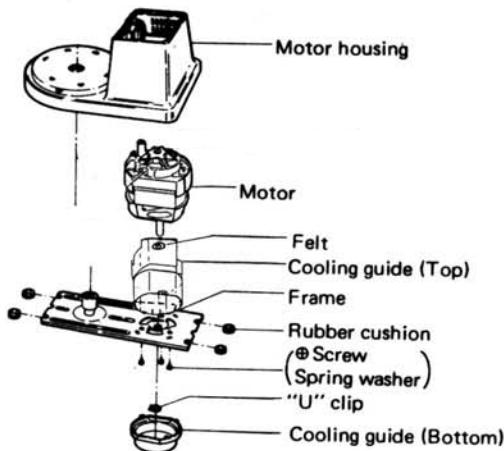

Fig. 6
3. Frame, Motor and Power Cord (Fig 6, 7 & 8).